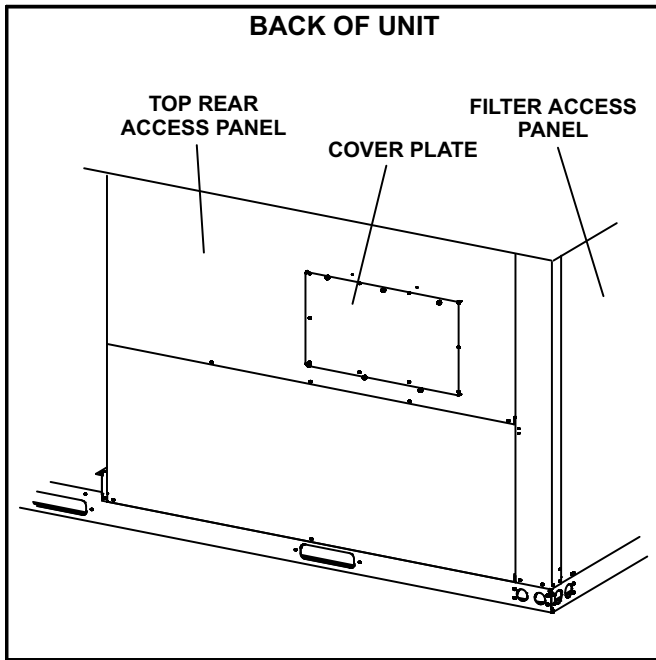

FIGURE 1
- 2- Remove and retain sheet metal screws securing the cover plate to the top rear access panel. Discard cover plate . See figure 1.
- 2- Remove and retain sheet metal screws securing the cover plate to the top rear access panel. Discard cover plate. See figure 1.